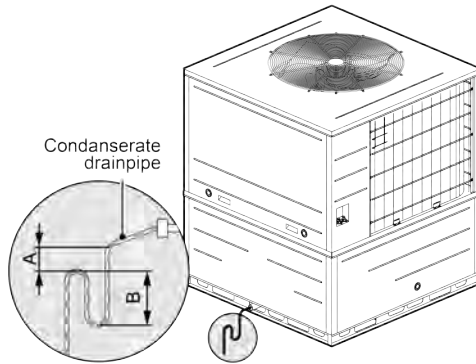

Fig.11
- (1) Condensate drain side is pitched lower than the opposite side. (see Fig. 11)
- (2) When shipped out from factory, both the condensate outlets are blocked by rubber plug. So before installation, please take the rubber plug out.
- (3) Condensate removal is performed by attaching a PVC pipe to the drain pan and terminated in accordance with local or state Plumbing/HVAC codes.
- (4) The condensate pipe shall be installed with an inclining angel of  $5\sim 10^\circ$ , so as to facilitate the drainage of condensate.
- (5) As the inside of the unit is in the negative pressure status, it is required to set up a backwater elbow. The requirements is:  $A=B\geq P/10+20(\text{mm})$
- (6) P is the absolute pressure inside the unit. The unit of the pressure is Pa.
- (7) After the electrical installation is completed, carry out the testing of the drainage system.
- (8) It is not allowed to connect the condensate drain pipe into waste pipe or other pipelines which are likely to produce corrosive or peculiar smell to prevent the smell from entering indoors or corrupt the unit.
- (9) It is not allowed to connect the condensate drain pipe into rain pipe to prevent rain water from pouring in and cause property loss or personal injury.
- (10) Condensate drain pipe should be connected into special drain system for air conditioner.
- (11) Drain hose is in negative pressure state:  $A = B\geq P/10+13/16 "$  (20mm).